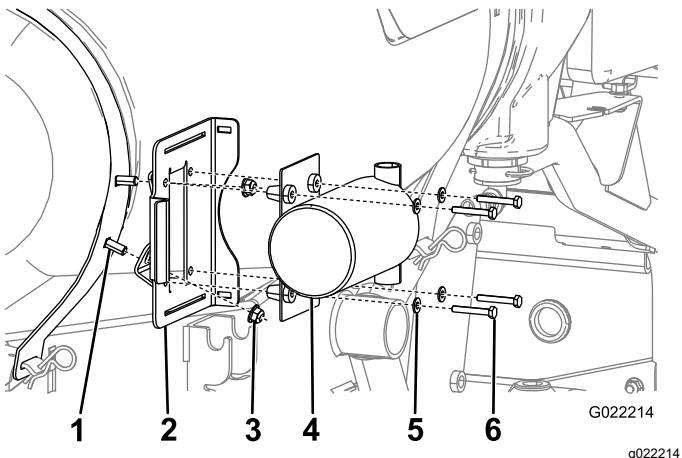

Figure 8
4. Attach the rinse pump mounting bracket to the previously installed carriage bolts using 2 flange nuts (Figure 8).
- 6. Secure the pump to the frame using the 4 bolts and 4 small washers (Figure 8).